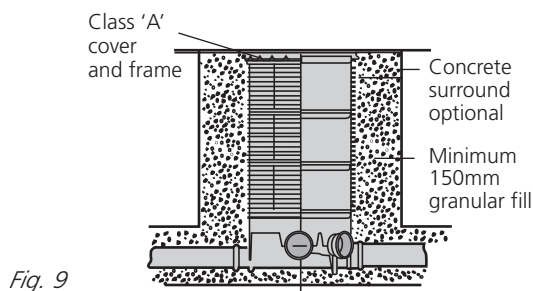

Fig. 9
C.I. cover/PP frame to BS EN 124 Class A (4DIFC3): for use in areas inaccessible to motor vehicles and industrial trolleys (Fig. 9)
The appropriate cover should be selected, as for the Terrain Inspection Chamber. For installation details see page 15. *Figs 9 and 10* also apply.
All items – outlet, pipework, junction or bend – are assembled using standard ‘push-fit’ jointing procedures. No special sealing compound is required. See page 15, Figs 9 and 10 for cover and frame installation details.